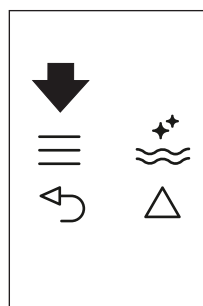
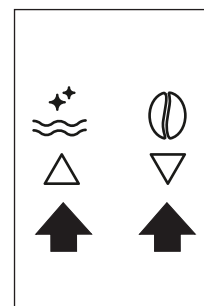

Fig. 22
Fig. 9
- ▶ Press the ≡ icon (B2) to enter the menu (Fig. 22), then press the icons △ ▽ (B7) and (B8) (Fig. 9) until "PROGRAM CAPPUCCINO" is displayed.
- ▶ Press the ☰ icon (B2) to enter the menu (Fig. 22) or press the ▲ ▼ icons (B7) and (B8) (Fig. 9) until "PROGRAM CAPPUCCINO" is displayed.
- ▶ Press the OK icon (B9) to confirm then the ▲ ▼ icons (B7) and (B8) (Fig. 9) until "COFFEE FOR CAPPUCC." is displayed.